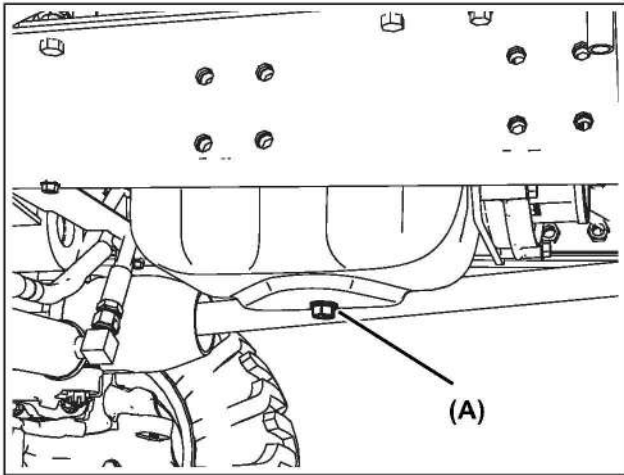

Fig 14-25
- Place an oil pan underneath the engine oil drain plug (Fig 14-25, A).